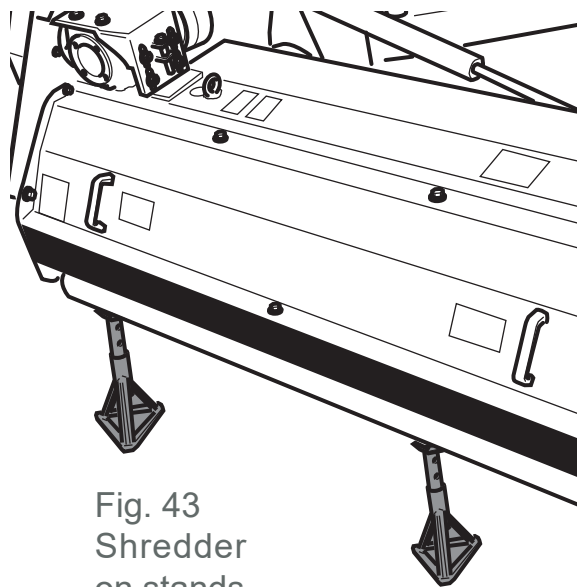

Fig. 43
- 2) For models without an opening hood, restart the tractor and lift and place the flail mower on sturdy and stable stands, high enough to make it easy to replace the tools (Fig. 43). Otherwise, access the rotor compartment by opening the hood.